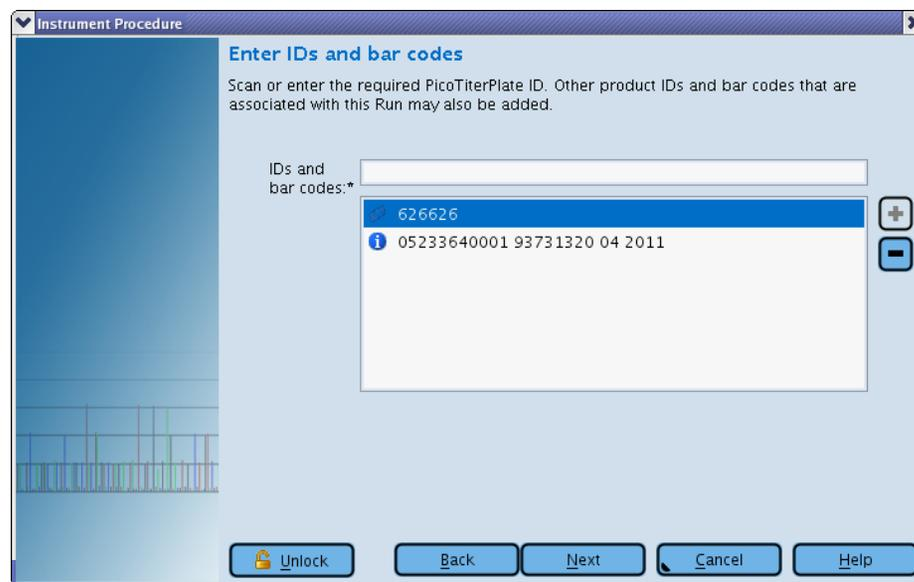

Figure 21: The Run Wizard's second window: Enter IDs and bar codes
- Enter IDs and bar codes (Figure 21).